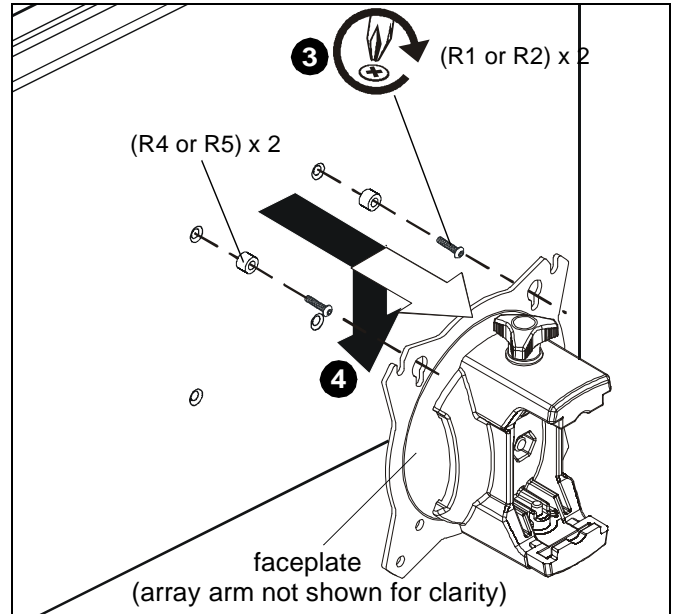

Figure 13
- Using Phillips screwdriver, carefully install two selected screws (R1 or R2) through selected spacers (R4 or R5) into the *upper* mounting holes on the display. Thread screws completely into display, then back out 3 complete turns. (See Figure 13)
- Pick up and align display so that screws (R1 or R2) (installed on the back of the display in the previous step) fit into the mounting holes on the faceplate. Lower the display firmly into place. (See Figure 13)